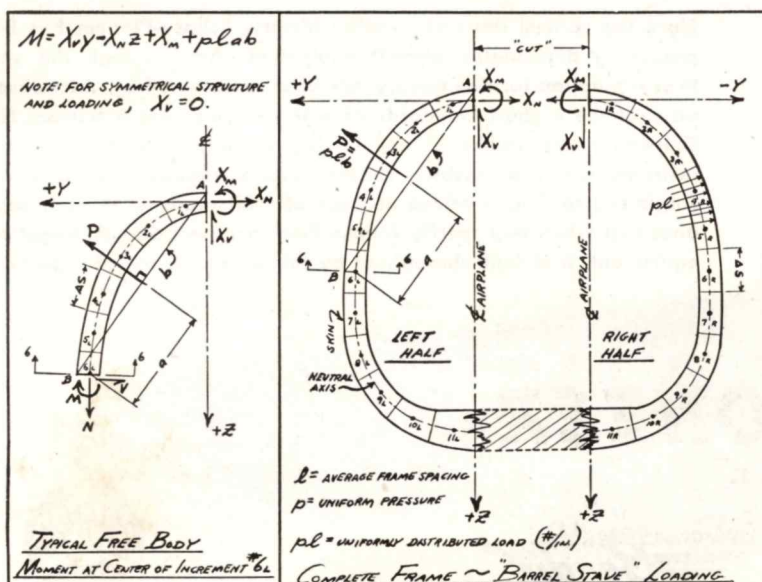

Fig. 1.—Typical frame with uniformly distributed pressure load—hoop tension in skin neglected
Referring to fig. 1, let us examine the analysis of a simple pressurized frame by the minimum strain-energy method. Taking p = uniformly distributed internal pressure and l = frame spacing (frames assumed parallel), a uniform outward pressure load of pl #/in is applied to the frame at the skin line and acts normal to the skin at all points. We may refer to this type of analysis as one involving "barrel stave" loading because the skin hoop tension is neglected and all pressure is assumed to be reacted directly by the transverse frames.
The crown or top of the frame of fig. 1 is "cut" for analysis purposes at the fuselage centerline or plane of symmetry. Redundant shear, axial load, and bending moment (X_v , X_n and X_m respectively) are applied to each side of the "cut" in the plane of the frame as shown. These redundants must be obtained from requirements of geometric continuity and will have simultaneous values just sufficient to close the "cut" with regard to the relative angular and translational displacements of the opposite cut faces.
simplified as much as possible. Under ordinary conditions, the majority of conventional pressurized frames will have dimensions such that flexural strain-energy affects deflections to a much greater extent than do the contributions of shear and axial work. Thus, in the simple case of fig. 1 we shall consider only flexural work.
Thus, considering the centroidal or nominal neutral axis of the frame of fig. 1 to be divided into a number of small finite increments of length Δs , simultaneous "elastic" equations (1), (2), and (3) are obtainable from the following tabular summations:
Of course, if both loading and structure of fig. 1 are symmetrical about the fuselage centerline, eq. (6) is eliminated entirely.